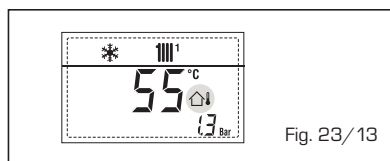

Fig. 23/13
- INTERVENTION THERMOSTAT SECURITE PREMIERE ZONE MIXTE "ALL 20" (fig. 23/14)